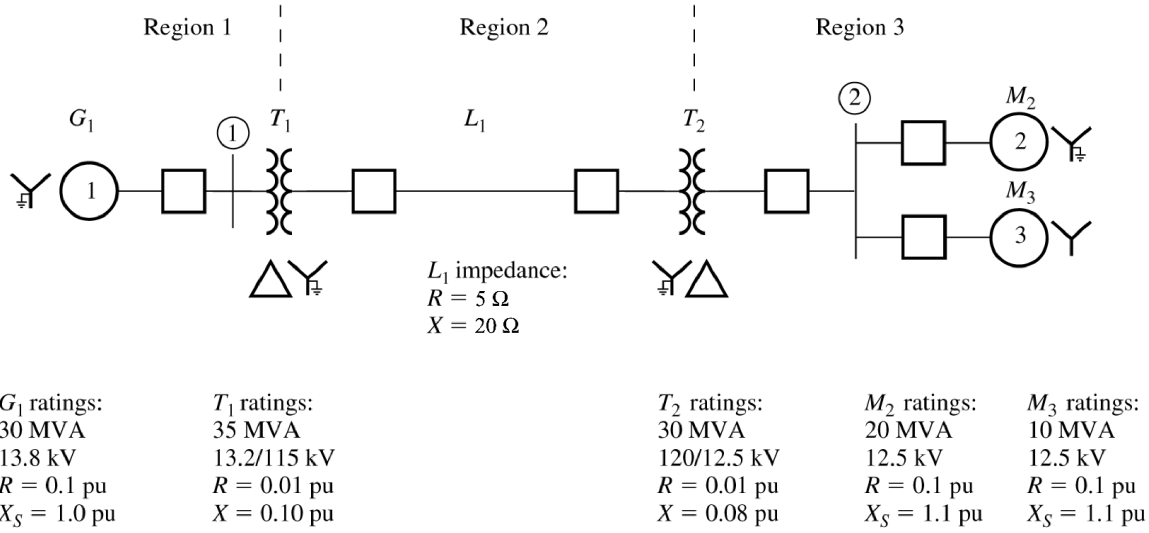

Figure P11-2 One-line diagram of the power system in Problems 11-9 and 11-10.
- 11-9.** Figure P11-2 shows a one-line diagram of a simple power system. Assume that the generator G_1 is supplying a constant 13.8 kV at Bus 1, that load M_2 is consuming 20 MVA at 0.85 PF lagging, and that load M_3 is consuming 10 MVA at 0.90 PF leading. Calculate the bus admittance matrix $\mathbf{Y}_{\text{bus}}$ for this system, and then use it to determine the voltage at Bus 2 in this power system. (*Note:* assume that the system base apparent power is 30 MVA.)